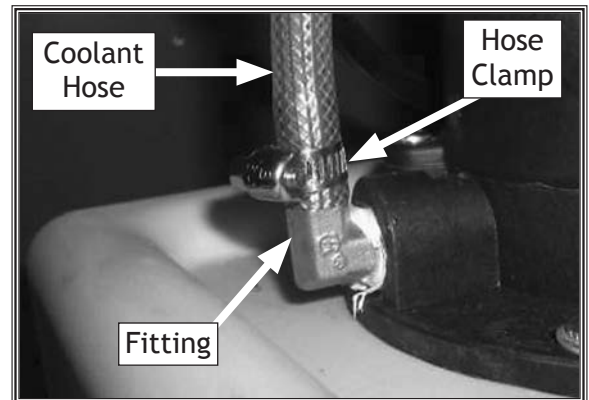

Figure 15. Coolant hose installed.
6. Slide included hose clamp over end of coolant hose, insert hose onto coolant tank fitting, then tighten hose clamp (see **Figure 15**).